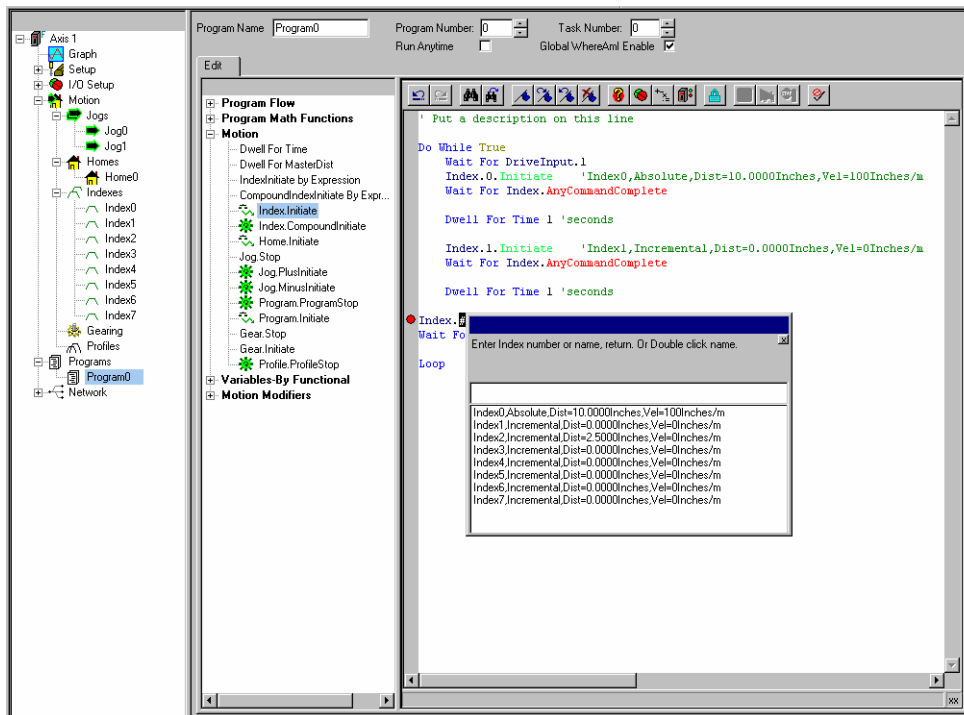

Figure 118: Index Selection Box
**Do While / Loop** – This program instruction is used to repeat a sequence of code as long as a test expression is true. The test expression is validated before the loop is entered. If the test expression is evaluated as False (0), then the code inside the loop will be skipped over. If the expression is evaluated as True (1), then the code inside the loop will be performed. Upon reaching the Loop instruction, the program flow returns to the Do While instruction, and the expression is evaluated again. The example program uses an expression of TRUE, which is always evaluated as True (1). Therefore the program will run continuously.
**Index.Initiate** – This program instruction is used to initiate a single index. When using this instruction, an Index Selection Box will appear allowing you to select the index you wish to initiate. This selection box is shown in Figure 118.